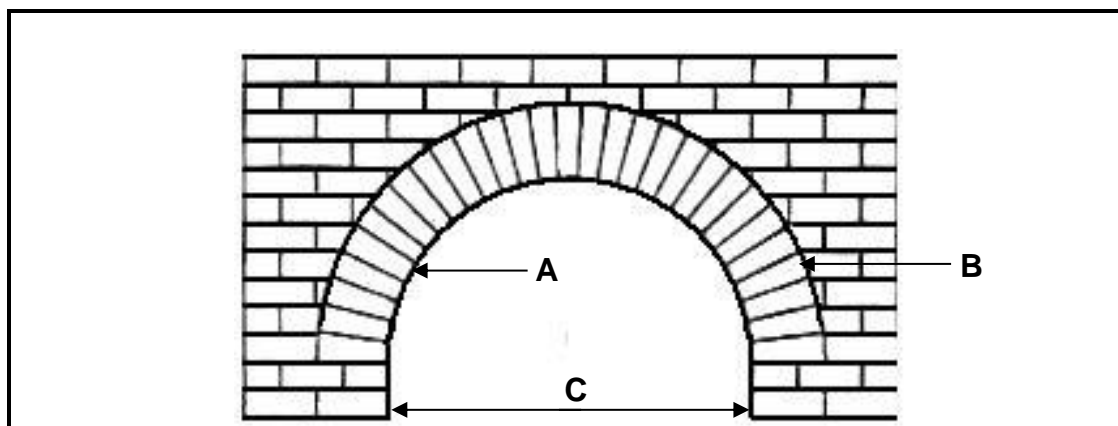

FIGURE 5.9
- 5.9 Answer the following questions about the arch structure in FIGURE 5.9.